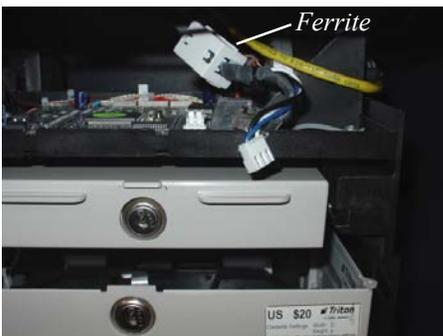

Figure 4. Power and Comm cable disconnected.
3. Disconnect the power and communication (Comms) cables from the dispenser (Figure 4). Carefully cut any Ty wraps that are securing the cables to the dispenser. Open the ferrite component that surrounds the 2 cables and set aside.